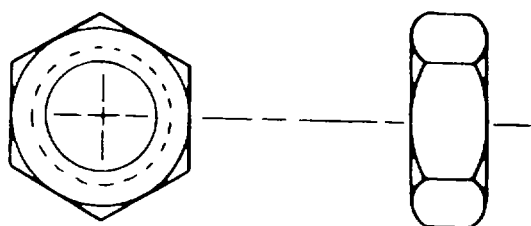

Figure 2-24. Plain Checknut
c. *Checknuts.* Use AN316 aircraft plain check-nuts, as shown in figure 2-24, as a locking device for plain nuts, setscrews, threaded rod ends, and other similar items.